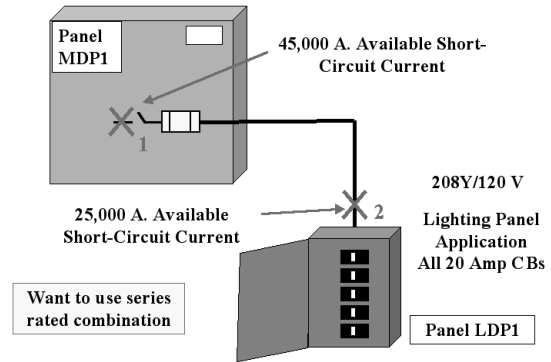

Figure 9
See Figure 9. The 208Y/120V, 200 amp, lighting panel LDP1 has 25,000 amperes available short-circuit current. The distribution panel MDP1 has 45,000 amperes available. The lighting panel has all single pole, 20 amp circuit breakers. The typical standard 20 A lighting panel circuit breaker has a 10,000 ampere interrupting rating, which is insufficient for the 25,000A available. The options are (1) to use a higher interrupting rated circuit breaker for the lighting panel, which may cost more and require more space or (2) to use a series rated combination. The series rated combination option can be investigated by looking at the fuse/circuit breaker tables by panelboard manufacturer that follow at the end of this section.